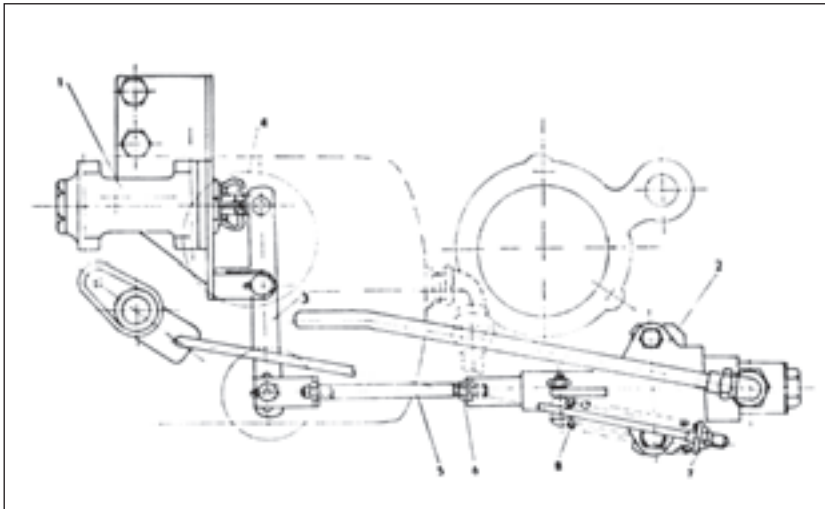

Fig. 191
In order to coordinate the brakes of the tractor and the trailer, a rocking lever (Fig. 191/3) is inserted between the pressure compensator (Fig. 191/1) and the brake valve (Fig. 191/2). The backlash between the compensator piston and the fork (Fig. 191/4) has to be eliminated. To do so, release the lock nut and turn the draw rod (Fig. 191/5). After the backlash elimination tighten the draw rod with the lock nut. The draw rod is to be attached to the lever (Fig. 191/3), namely in the second hole from the bottom. The other holes, the first or third from the bottom, can be used with regard to the various types of the trailers or saddle trailers after the tractor set has been tested.
2. Screw the draw rod (Fig. 191/5) slowly into the fork till the air "hisses" for the first time from the brake valve and the pressure on the gauge, which has been connected to the clutch head (Fig. 98), partially drops for the first time. Then turn the draw bar by $1/4$ up to $1/2$ of a turn in the opposite direction. Lock the draw bar (Fig. 191/5) in this position with the nut (Fig. 191/6).
With the brake pedal very slowly depressed, the draw bar (Fig. 191'5) should move 1.2 to 2 mm, then the pressure at the trailer coupling head will drop to zero. Just after this drop, if the pedal is further pressed down, the draw rod must move at least another 2 mm. Similarly, the pressure at the trailer coupling head will drop to zero when pulling the hand brake lever to the third tooth of the ratchet wheel.
The synchronization of the tractor hand brake and the trailer brakes is adjusted with a nut (Fig. 191'7). The nut has to be adjusted so that the spring (Fig. 191'8) is not preloaded and is without a play.